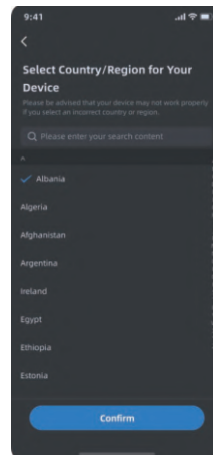

Figure 2
2)Figure 2: Select the country/region where the device will be used and click **"Confirm"**.